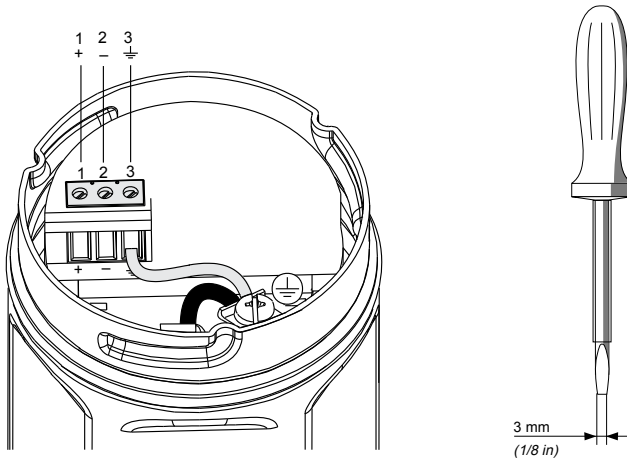

Figure 22. Transmitter Wiring
- 3) Make electrical connection. See terminal assignment in Figure 22.